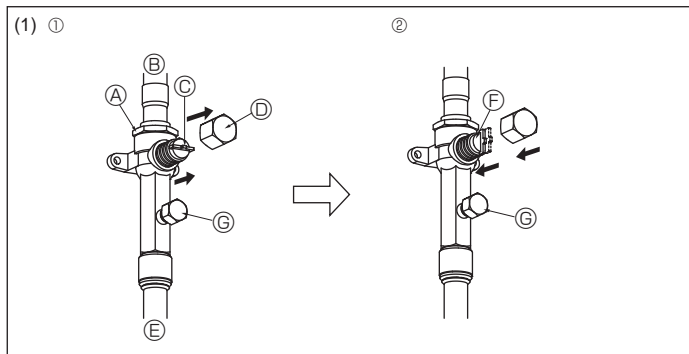
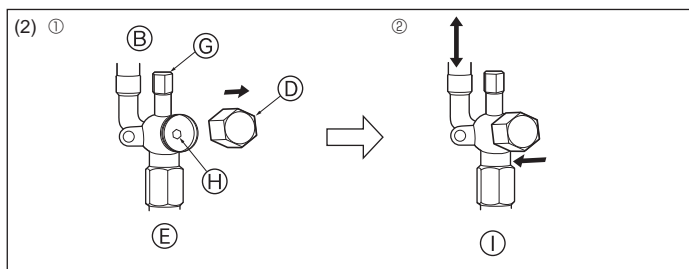

Fig. 4-12
Fig. 4-13
- (1) Gas side (Fig. 4-12)
- ① Remove the cap, pull the handle toward you and rotate 1/4 turn in a counterclockwise direction to open.
- ② Make sure that the stop valve is open completely, push in the handle and rotate the cap back to its original position.
- (2) Liquid side (Fig. 4-13)
- ① Remove the cap and turn the valve rod counterclockwise as far as it will go with the use of a 4 mm hexagonal wrench. Stop turning when it hits the stopper. (ø6.35: Approximately 4.5 revolutions) (ø9.52: Approximately 10 revolutions)